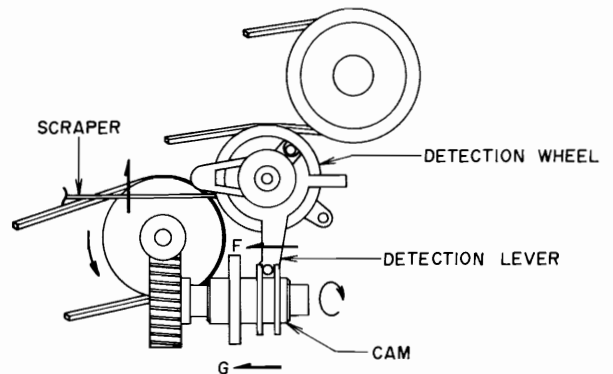

Fig. 8
- 1) When Pause key is depressed in the Play mode, tape transport stops, and the detection wheel ceases rotating. This sets the tape deck in the same condition as when the end of the tape is reached, so that the auto stop mechanism is actuated. However, depressing Pause key causes the scraper to push the detection lever in the direction of G as illustrated in Fig. 8. As a result, the cam is constantly pushed in the direction of G, permitting the auto stop mechanism to function in the same way as in the Play or Fast Forward mode and thus preventing the auto stop operation from being executed.